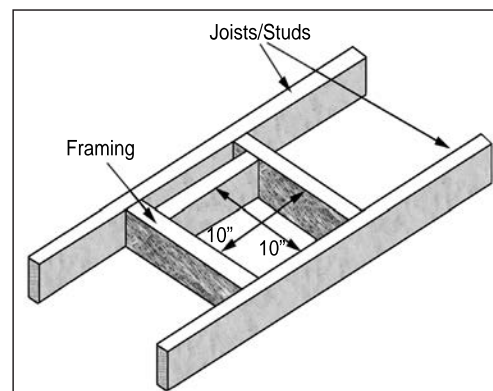

Figure 31. Vent Framing For Wall or Ceiling
A **10" (254 mm) x 10" (254 mm)** frame (see Figure 31) will assure the proper support and spacing for the vent pipe as it passes through the wall. Installations in Canada require that a wall thimble be used for passing through walls and ceilings. All sealing and vapour barriers must comply with local building codes.
Step 3. With the pipe in the correct position and attached to the fireplace, mark the wall for a **10" (25.4 cm) x 10" (25.4 cm)** square hole (see Figure 31). The center of the hole should match the center line of the horizontal pipe. Cut and frame the hole in the exterior wall where the vent will be terminated. If the wall being penetrated is made of a non-combustible material (i.e. masonry or concrete) a **7" (17.8 cm)** hole is acceptable.